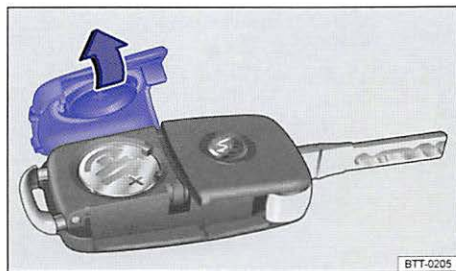

Fig. 19 Remote control vehicle key: Open battery compartment cover.
- Remove the cover on the back of the remote control vehicle key $\Rightarrow$ fig. 19 in the direction of the arrow $\Rightarrow$ ①.
- Position the new battery in as shown $\Rightarrow$ fig. 19 and press it into the battery compartment (opposite to direction of the arrow) $\Rightarrow$ ②.